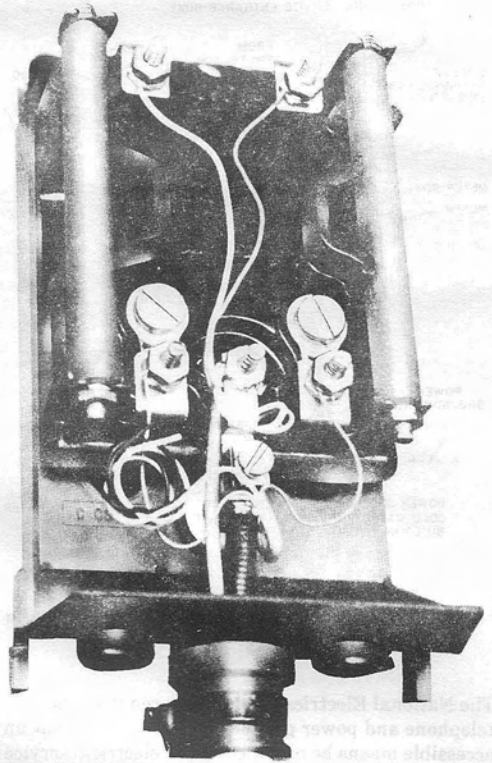

Fig. 31—106C Protector in C Customer Service Closure With Buried Service Wire
5.05 When the 106C protector is installed outdoors, use a C customer service closure (Fig. 31). Where this combination is used to terminate buried service wire, mount the protector upside down in the closure so the ground terminal is at the bottom. This will facilitate the use of the F connector. The conductors of the buried service wire must be connected to the line terminals (marked L) at the top of the protector, while the station wiring must be connected to the bottom terminals (marked I). Where a 106C protector is installed indoors and buried service wire is terminated, make connection and ground the shield without the C customer closure.